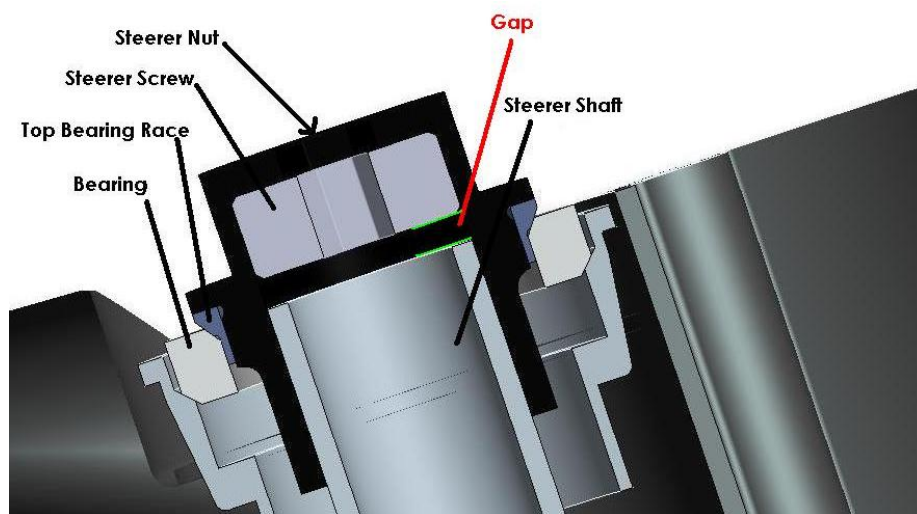

Fig. 6
- This will determine the headset tension. Adjust it just like a standard threadless headset. See Fig. 6